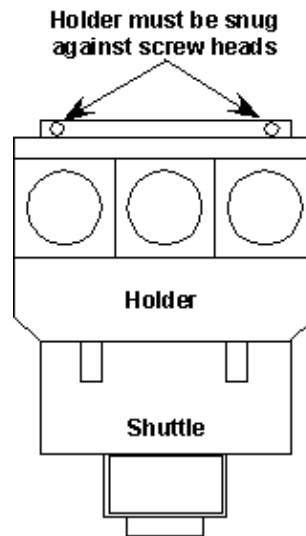

Figure 3. Proper orientation of the sample holder on the shuttle.
- D. Open the **Specimen Exchange Door**, remove the shuttle, and slide the holder onto the Sample Shuttle (see Figure 3).